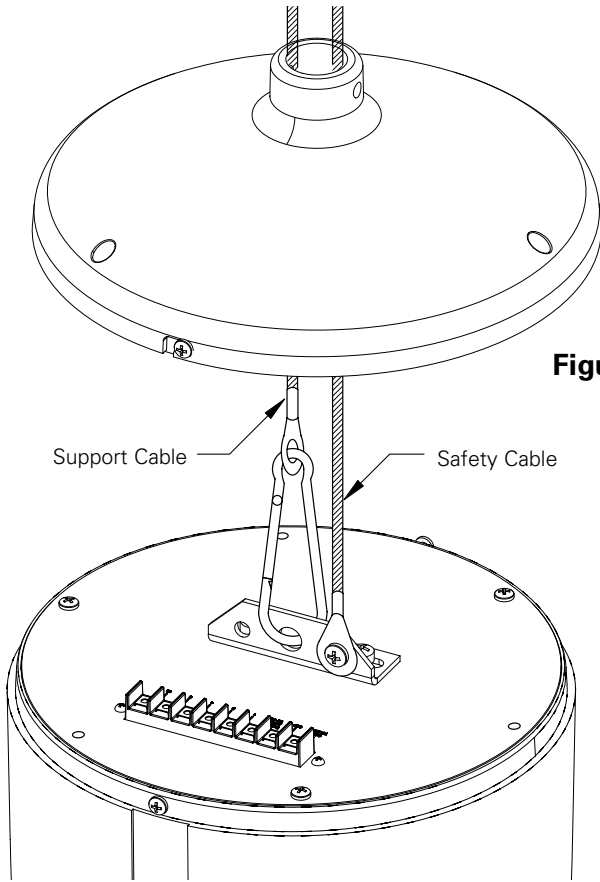
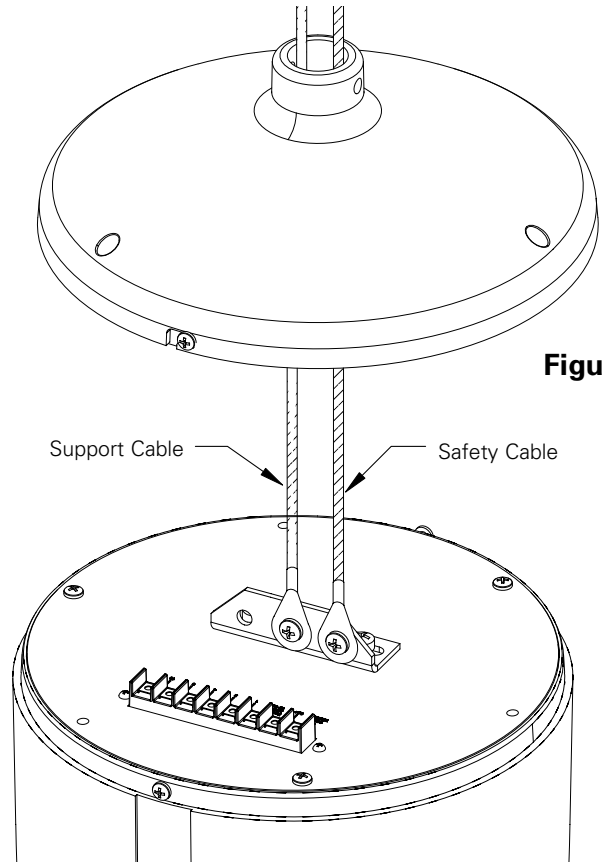

Figure 6a
Figure 6b
5. (For PM8) Route the eyelet end of the main support cable through the top cover of the PM speaker, attach the included carabiner clip to the eyelet and the large mounting hole on the back of the PM speaker. (Fig 6a) (For PM4) Route the eyelet end of the main support cable through the top cover of the PM speaker, attach the eyelet to the large mounting hole on the back of the PM speaker using included mounting screw. (Fig 6b)